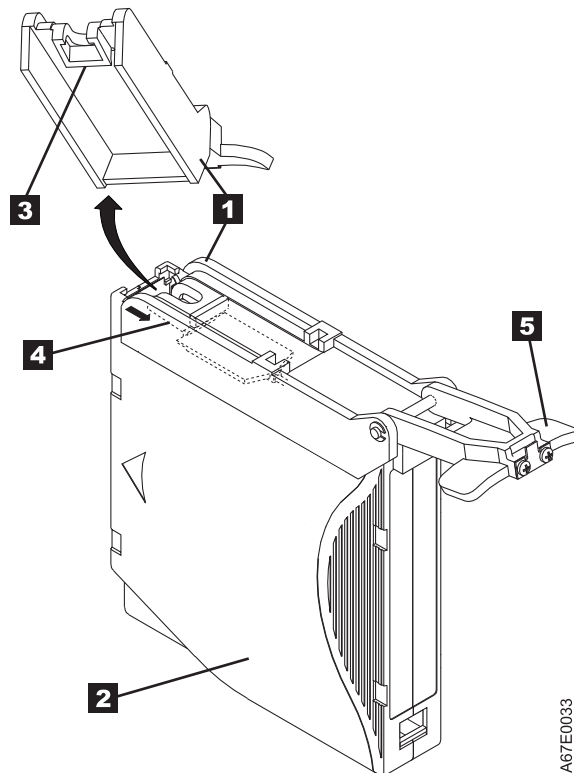

Figure 154. Attaching the leader pin attach tool to the cartridge. To hold the cartridge door open, hook the tool into the door and pull the tool back.
1. Attach the leader pin attach tool (**1** in Figure 154) to the cartridge (**2**) so that the tool's hook (**3**) latches into the cartridge's door (**4**). Pull the tool back to hold the door open, then slide the tool onto the cartridge. Open the tool's pivot arm (**5**).